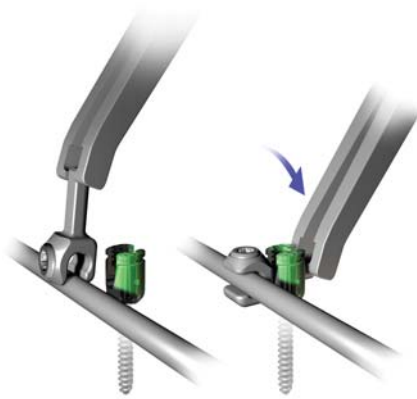

Figure 29
- Rotate the head of the Polyaxial Screw to align it to the bar of the Lateral Offset Connector. Then rotate the bar into the Polyaxial Screw. Apply the closure mechanism to the Polyaxial Screw in the usual manner. Revisit all Set Screws for the final tightening when appropriate (Figure 29).